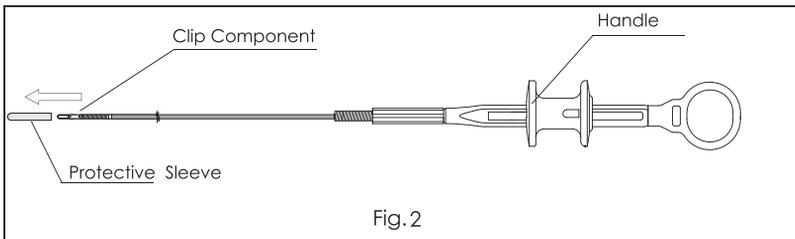

Fig. 2
2. Carefully insert device into endoscope channel, ensuring that the clip is in the closed position (See Fig.2).